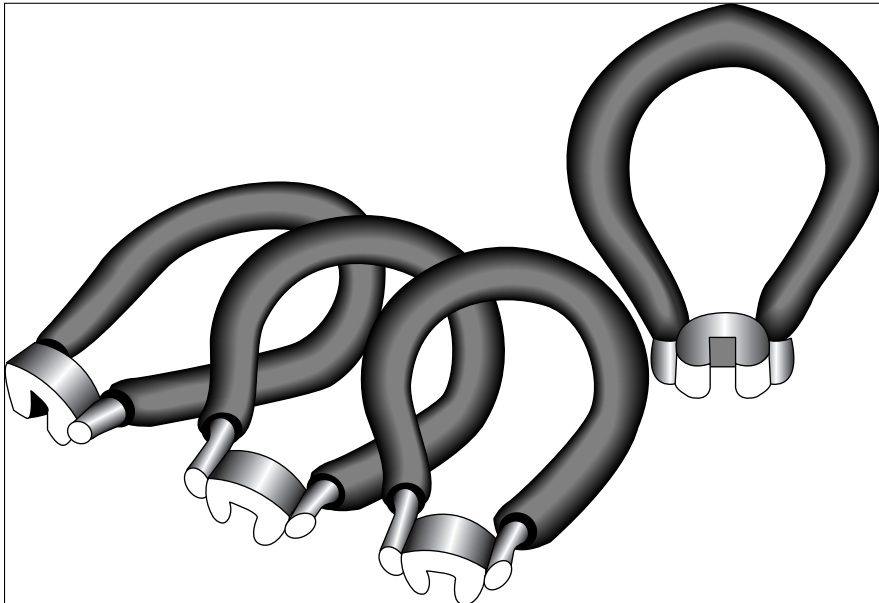

Figure 3-13:
- ✔ **Spoke wrench (see Figure 3-13):** Also called a *spoke key* or *nipple spanner*, this wrench is used to tighten, remove, or install a spoke. Although spokes may all appear the same to an untrained eye, they require the right-size spoke wrench to prevent damage to the nipples.